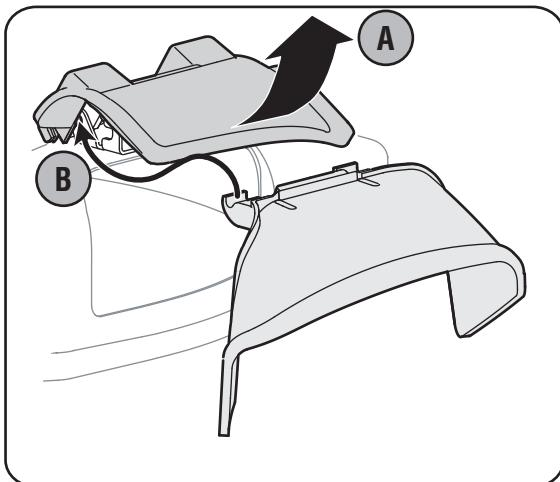

Figure 6
- Your mower has been shipped as a mulcher. To discharge grass to the side, lift mulching plug. Slide the two hooks on the side discharge deflector under the hinge pin on the mulching plug assembly, see Figure 6. Lower the mulching plug.